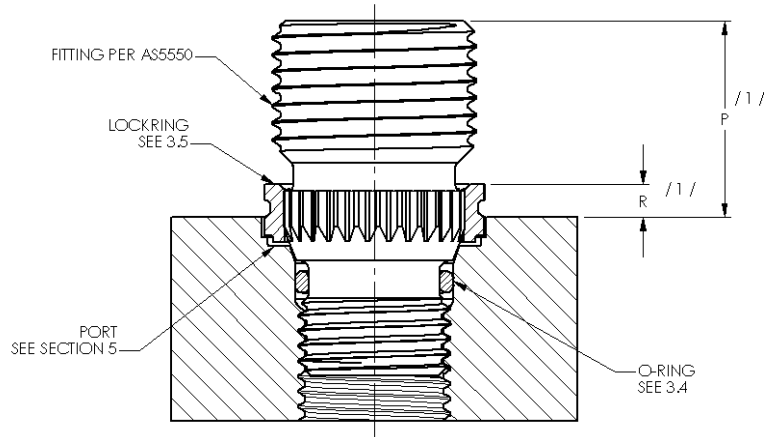

Figure 1 - Installed fitting assembly
- 3.2 Fitting assembly per AS5550 installed per this document into ports prepared per Section 5 shall have stand-off dimensions "P" and "R" in Figure 1 and Table 1A.